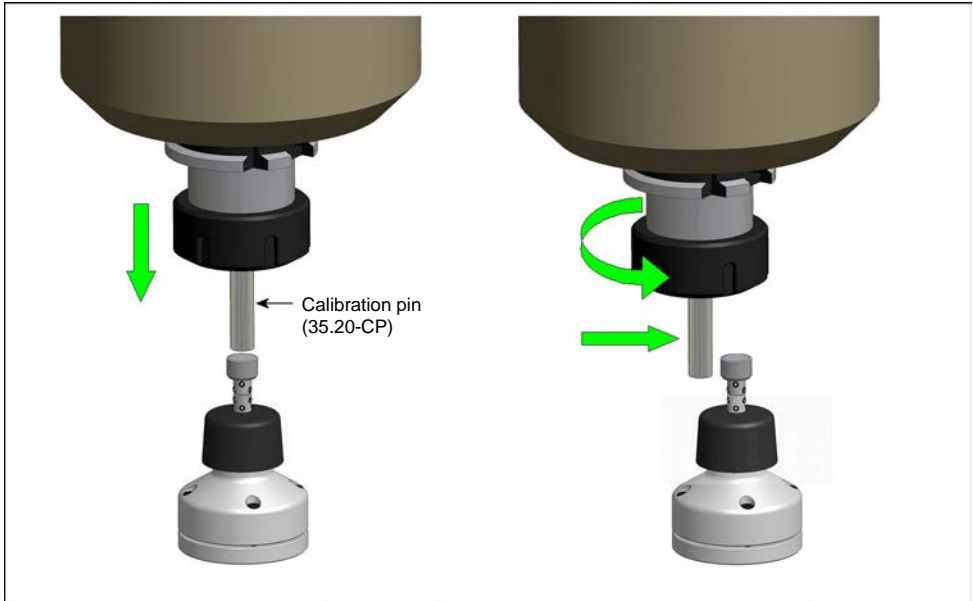

Fig. 9 Tool Setter Calibration
1. Loosen the grub screws D, E and F (refer to Fig. 9) and remove the cylindrical stylus together with the break shaft from the break shaft adapter.
2. Loosen the grub screws A, B and C of the cylindrical stylus (refer to Fig. 9) and remove the break shaft.